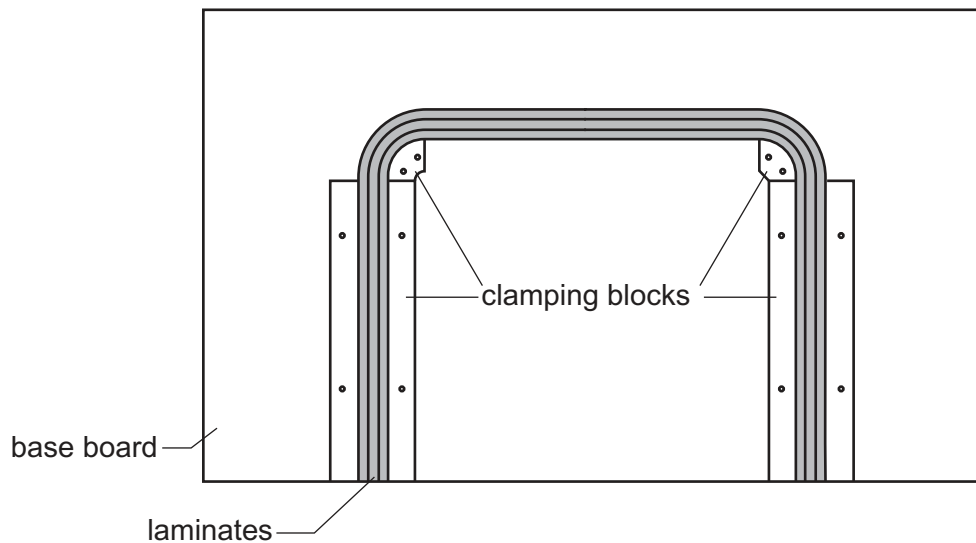

Fig. 8.1
- 8 Fig. 8.1 shows legs of a small table that have been produced by laminating veneers.
Add sketches and notes to Fig. 8.1 to show the remaining clamping blocks required to ensure that the legs are successfully laminated.